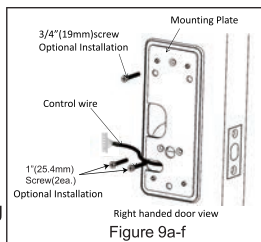

Figure 9a-f
- From the side marked “This side against door”, route the Control Wire through the rectangular slot in the Mounting Plate (Figure 9a-f).
- Place Mounting Plate against door with tailpiece passing through the center hole in the three hole set (Figure 9a-f).
- Secure the Mounting Plate to the Exterior Assembly using two 1”(25.4mm) Screws (Figure 9a-f).
- Hand tighten with a Phillips Screwdriver leaving loosely connected (Figure 9a-f).
- Check if the Rubber Gasket is properly aligned and correct as necessary (Figure 9a-f).
- Check vertical alignment of the lock (Figure 9a-f).